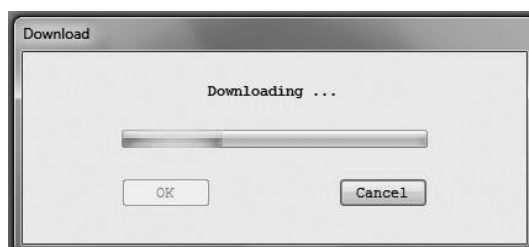

Fig. 3-91
- (7) Once the parameters are downloaded, various set values are changed and the output value from the flowmeter is also changed. If valves are controlled by the output of the flowmeter, change the control loop to manual control for the sake of safety, so that the control loop may not be affected by the output of the flowmeter.
- (8) If you click "OK" button and the download is started, the message box (Fig. 3-91) will be displayed. It is possible to confirm the status of downloading by the progress bar in the center of the window.